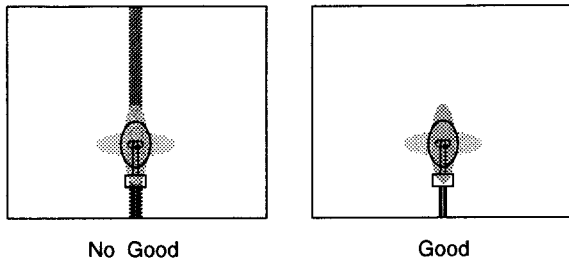

Fig. 5-1
- While observing the picture on the Video Monitor, adjust VR2 so that the blooming becomes minimum as shown in Fig. 5-1.